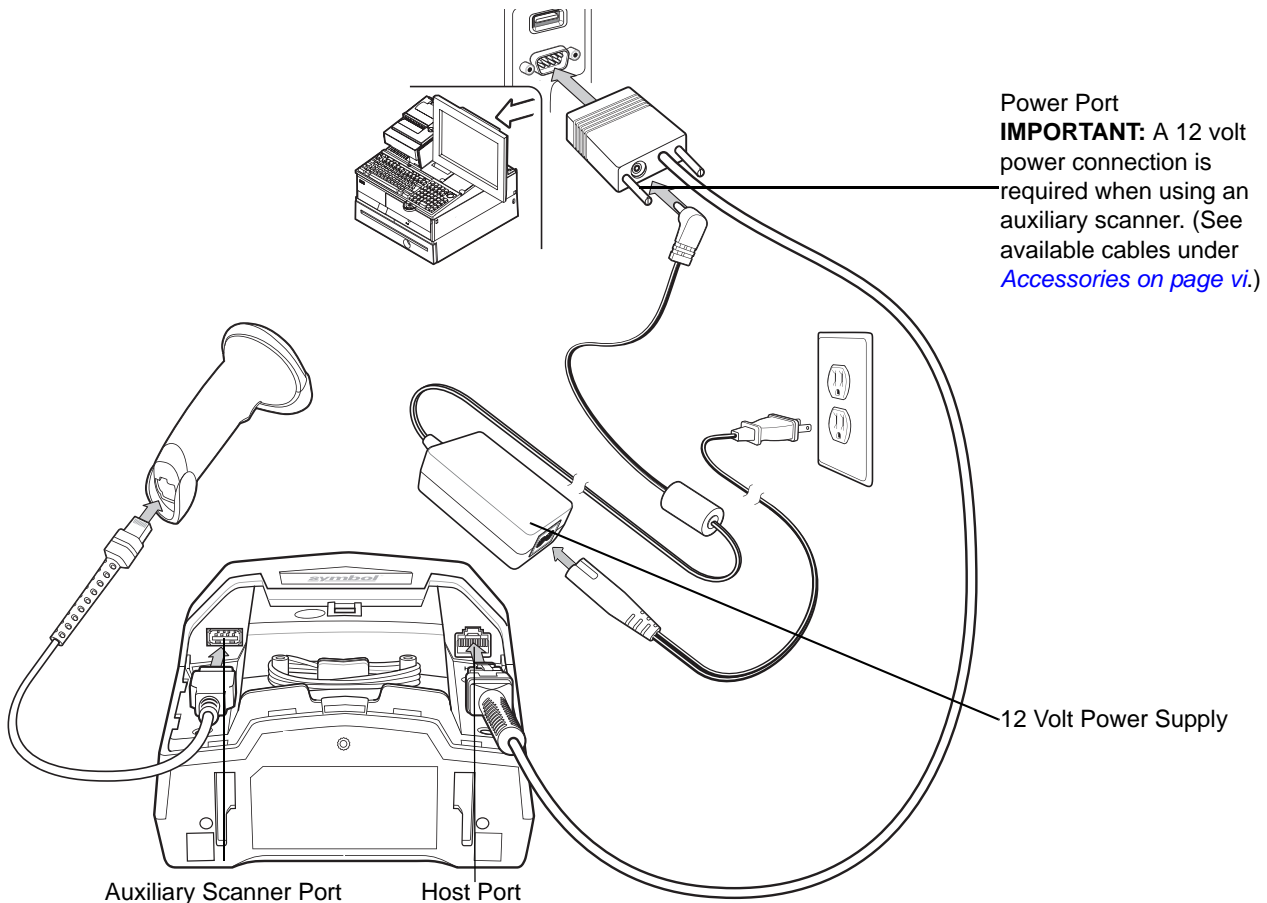

Figure 7-2 RS-232 Connection with Auxiliary Scanner - 12 Volt Power Supplied Externally
- b. Connect a 12 volt external power supply to a 12 volt Power Plus host connector as shown in Figure 7-2.